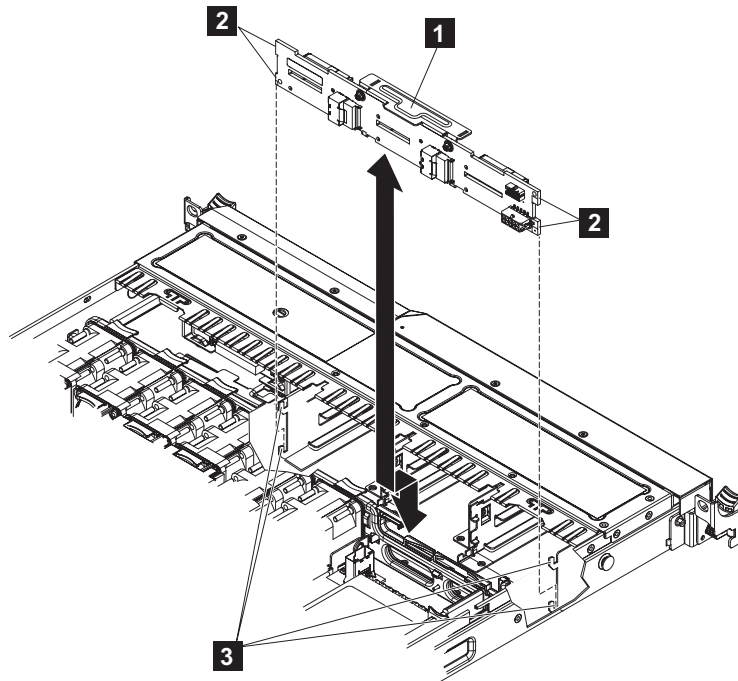

Figure 118. The SAN Volume Controller 2145-CF8 disk backplane
12. Lift up the disk-drive backplane (**1** in Figure 118 on page 139) to disengage the backplane tabs (**2**) from the slots (**3**) on the backplane bracket; then, push the backplane backwards until it is clear of the slots on the bracket and remove it from the node.